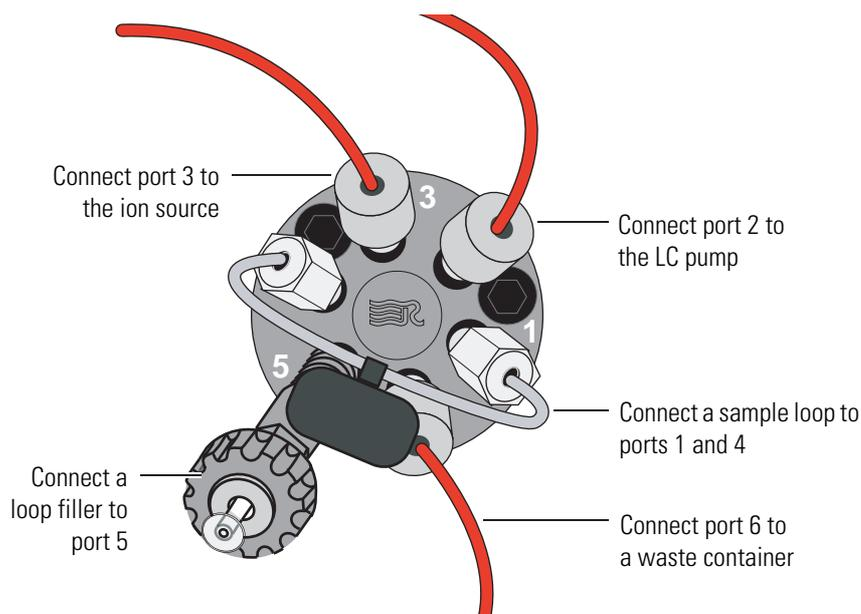

Figure B-10. Switching valve set up for loop injections
1. Connect a loop filler to port 5 of the switching valve. See Figure B-10.